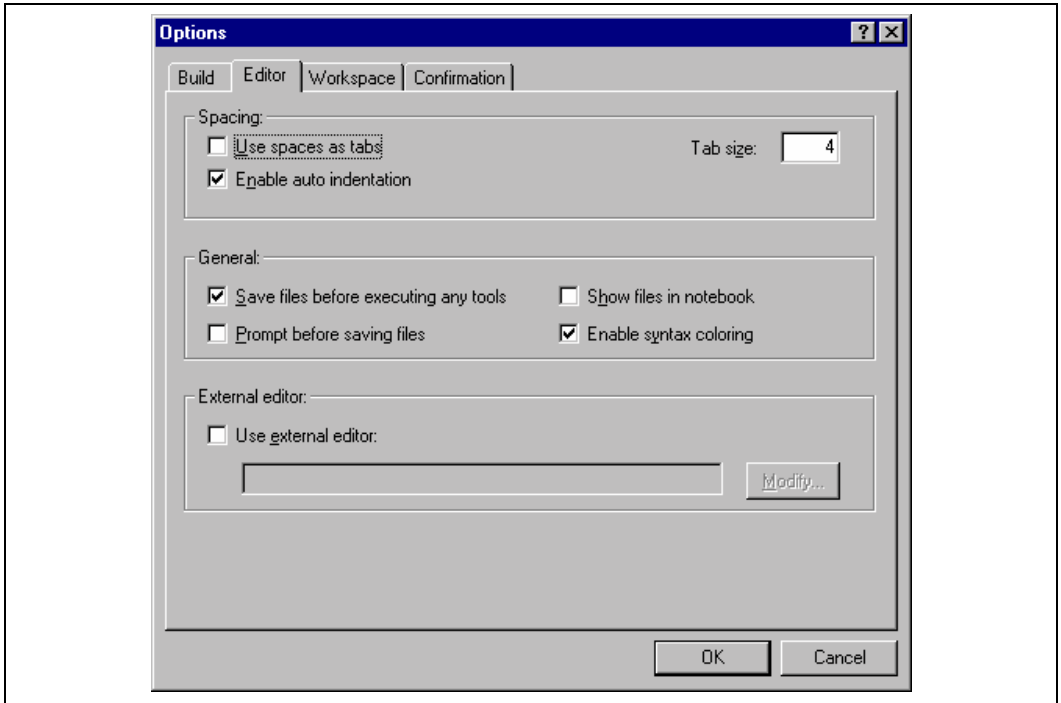

Figure 4.7: Options Dialog Editor Tab
1. Select [**Tools->Options...**]. The “Options” dialog will be displayed. Select the “Editor” tab (figure 4.7).